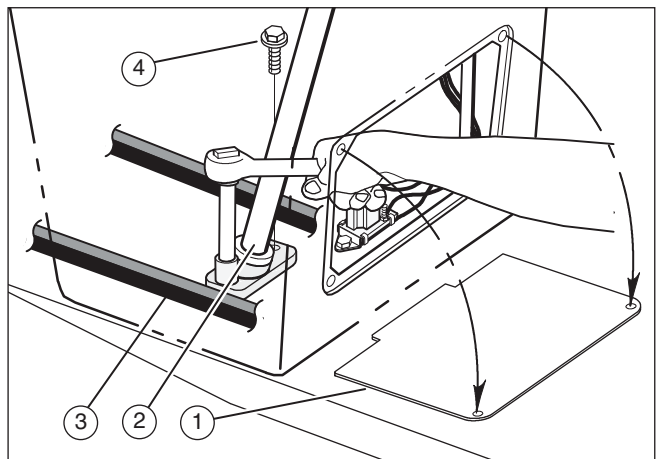

Figure 35
9. Remove the access panel (1) (see **Figure 35**).
10. Remove the two screws (4) that attach the steering shaft assembly. Raise the steering wheel and steering shaft assembly. Pull the motion drive belt (3) under the steering shaft assembly.